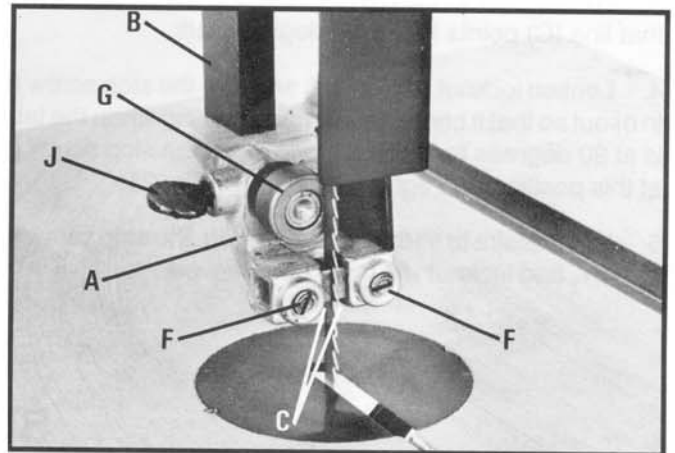
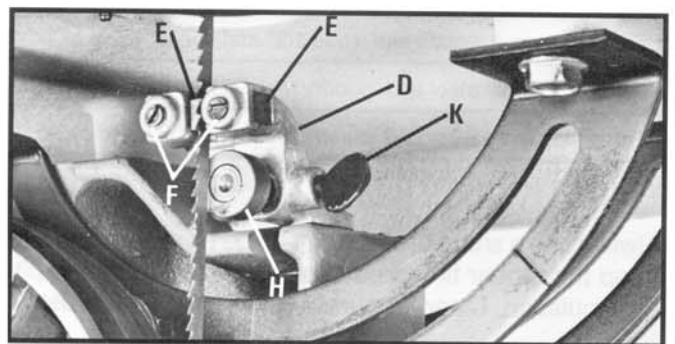

Fig. 19
Fig. 20
2. The upper guide bracket (A) Fig. 19, is assembled to the lower end of the guide post (B) by a hex head screw. Loosen the hex head screw and move the guide bracket (A) in or out until the front edge of the guides (C) are just behind the blade "gullets" (bottom of the saw teeth).
3. The lower guide bracket (D) Fig. 20, is assembled to the frame casting using a flat head bolt and hex nut. Loosen the hex nut and move the guide bracket (D) in or out until the front edge of the guides (E) are just behind the blade "gullets."
4. The upper blade guides (C) Fig. 19, and lower blade guides (E) Fig. 20, are held in the guide brackets with set screws (F). Loosen set screws (F) and adjust blade guides as close as possible to the sides of the saw blade being careful not to pinch the saw blade.
The upper blade support bearing (G) Fig. 19, and lower blade support bearing (H) Fig. 20, prevent the saw blade from being pushed back too far while cutting, which could damage the set in the saw teeth. The support bearings (G) Fig. 19, and (H) Fig. 20, should be adjusted approximately 1/64" behind the blade, as follows:
1. Loosen thumb screw (J) Fig. 19, and position upper blade support bearing (G) 1/64" behind the rear edge of the saw blade. Tighten thumb screw (J).
2. Loosen thumb screw (K) Fig. 20, and position lower blade support bearing (H) 1/64" behind the rear edge of the saw blade. Tighten thumb screw (K).